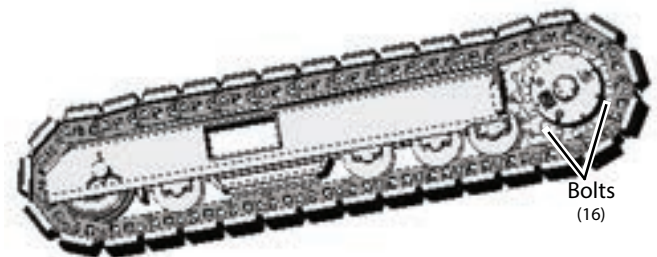

Figure 5-30. Torque Hub
6. Remove the two (2) bolts holding the drive motor to the torque hub. **(Figure 5-30)** Support the undercarriage with a forklift or jack before lowering to the ground.
7. Unbolt the two (2) trunnions on the front of track undercarriage and stops at each side of the rear of the undercarriage.
7. Remove bolts holding torque hub to track undercarriage. **(Figure 5-30)**